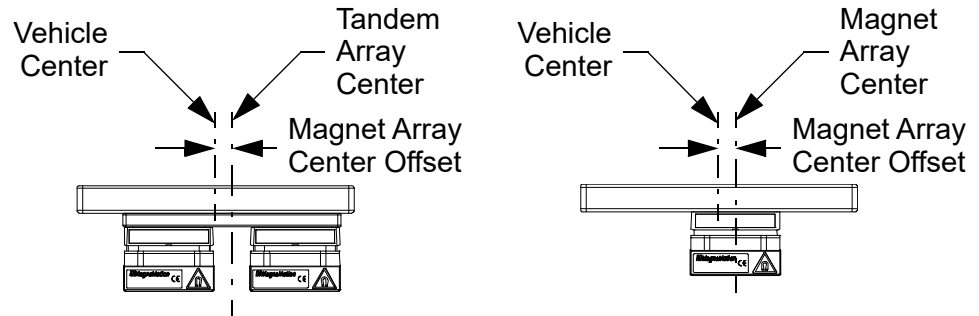

Figure 4-26: Magnet Array Center Offset, Single Vehicles
- For a vehicle with a non-standard payload that the vehicle can support without tipping, see Figure 4-26, this distance is the offset from the center of the vehicle to the center of the magnet array.